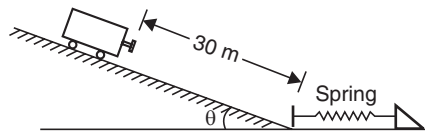

Fig. 9.15
10. A wagon of mass 50 tonnes, starting from rest, travels 30 m down a 1% grade and strikes a post with bumper spring as shown in Fig. 9.15.